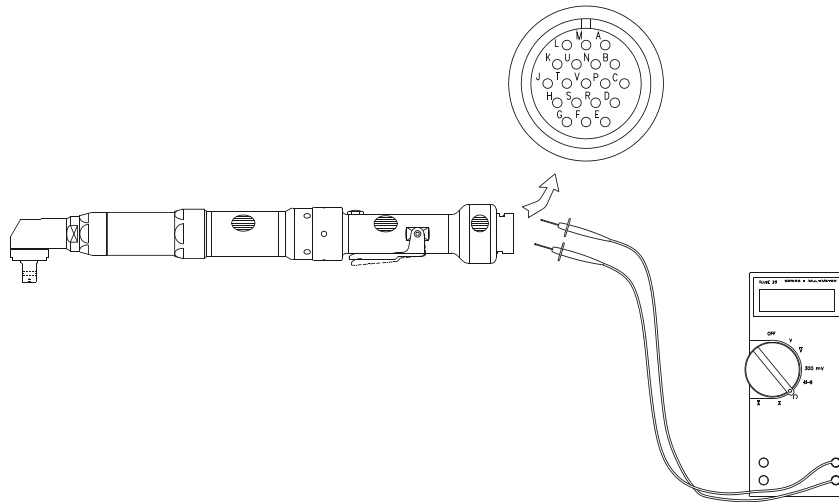

FIG. 8-2-3 Motor Inspection
- 3. Measure the resistance between windings. (Refer to Fig 8-2-3)